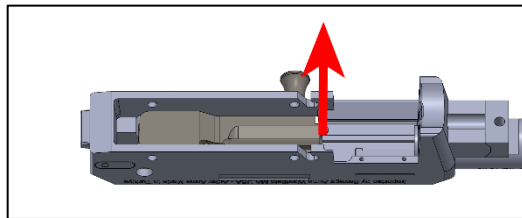

Figure 28
- Carefully lift front of the bolt upwards to disengage it from the cocking handle assembly – Figure 28.